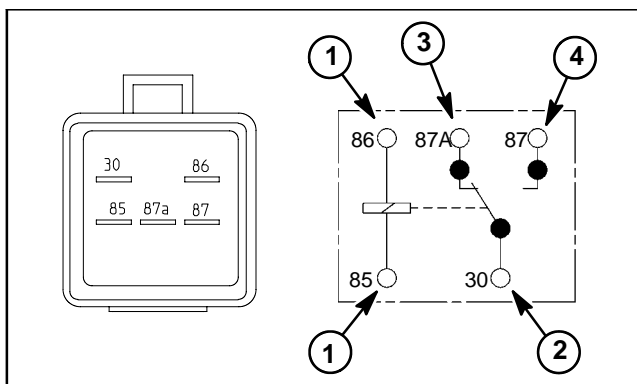

Figure 42
The start and air conditioning relays are attached to the wire harness with a five (5) wire connector (Fig. 42).